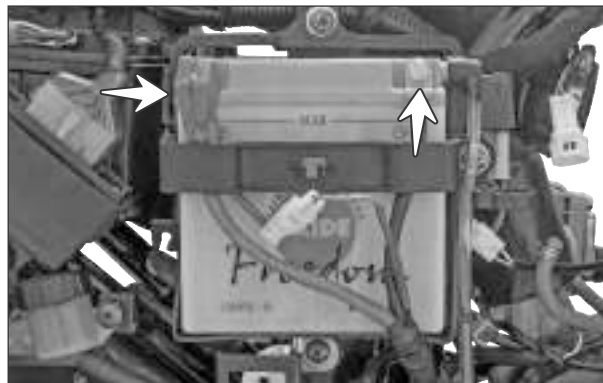

Fig. 3.120
- Disconnect both the thermal from the battery assembly. (Fig. 3.120)